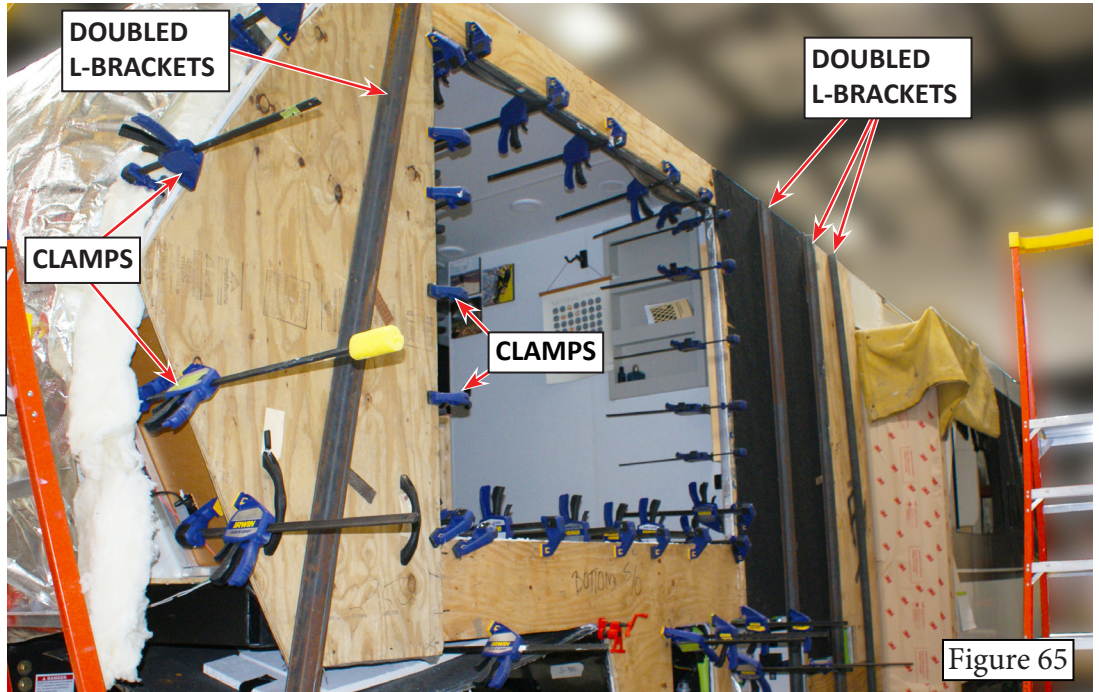

Figure 65
- Use clamps to secure the openings for the slide-out, basement doors, and the front cap area (Figures 62b and Page 49, Figure 65). Where possible, place clamps at a minimum of 12" apart, closer where applicable.
(FIGURE 65)**